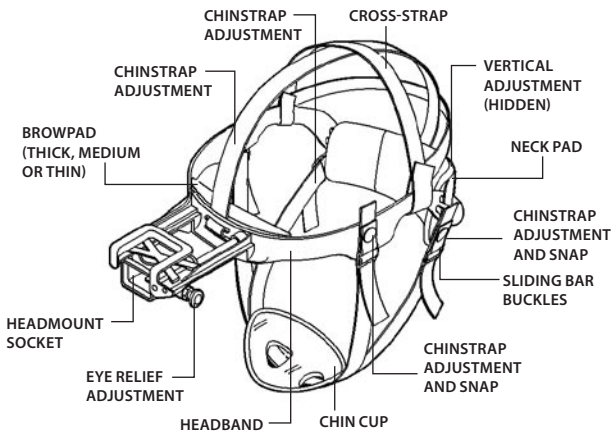

Figure 3-9. PVS-14 Headmount Adjustments
- (1) Before putting the headmount on, loosen the four ends of the chinstrap (approximately two inches from the sliding bar buckles; see Figure 3-9).
- (2) Snap the front and rear clasps (Figure 3-9) into place.
- (3) Using both hands, grab the neck pad (Figure 3-9) and pull the harness over your head, sliding the neck pad down over the back of your neck.
- (4) Holding the chin cup in position, adjust both sides of the chinstrap until you feel it lightly press against your chin. **DO NOT TIGHTEN.**
- (5) Maintain the position of the chin cup and remove any slack from the chinstrap. **DO NOT TIGHTEN.**
It may be necessary to remove the browpad (Figure 3-9) when wearing the headmount over a protective mask.